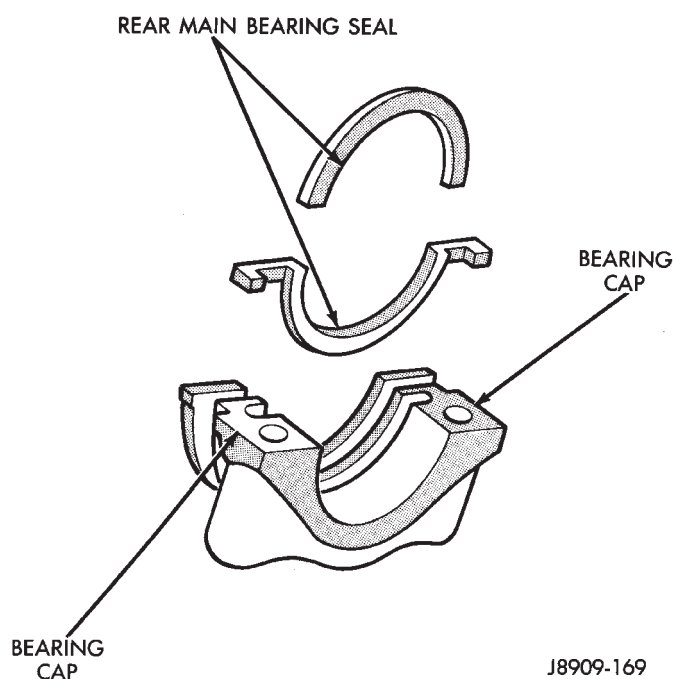

Fig. 61 Rear Main Bearing Oil Seal
- (1) Wipe the seal surface area of the crankshaft until it is clean.
- (2) Apply a thin coat of engine oil.
- (3) Coat lip of the seal with engine oil.
- (4) Carefully position the upper seal into the groove in the cylinder block. The lip of the seal faces toward the front of the engine.
- (5) Place the lower half of the seal into bearing cap (No.7) (Fig. 61).
- (6) Coat the outer curved surface of the lower seal with soap and the lip of the seal with engine oil (Fig. 61).